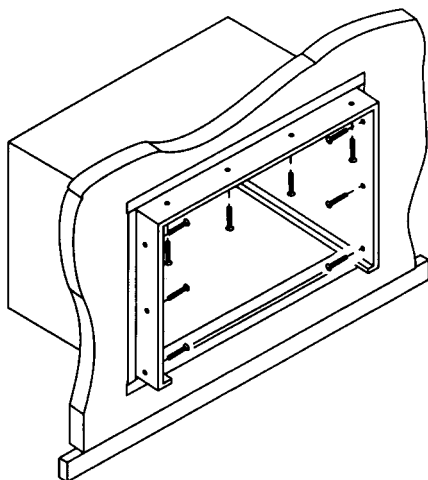

FIGURE 25 — SECURING CABINET TO FRAME
15. There are screw holes in the cabinet (4 each side, 4 top) which are used to secure the cabinet to the wooden frame. With the cabinet in its final position, drill holes in the wooden frame using the screw holes in the cabinet as a guide. After the holes have been drilled, secure the cabinet to the wooden frame using field-supplied screws. See Fig. 25.
To operate the room air conditioner with the remote control, aim the remote control to the signal receptor. (See Fig. 25.) The remote control will operate the air conditioner at a distance of up to 23 feet when pointing at signal receptor of the unit.